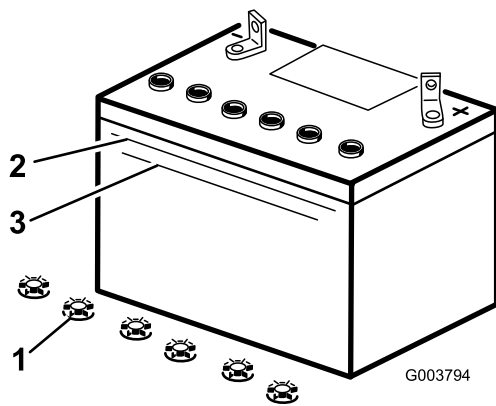

Figure 43
3. Look at the side of the battery. The electrolyte must be up to the Upper line (Figure 43). Do not allow the electrolyte to fall below the Lower line (Figure 43).
5. Remove the filler caps from the battery (Figure 43).
6. Slowly pour distilled water into each battery cell until the electrolyte level is up to the Upper line (Figure 43) on the battery case.
7. Wait 5 to 10 minutes after filling the battery cells. Add distilled water, if necessary, until the electrolyte level is up to the Upper line (Figure 43) on the battery case.